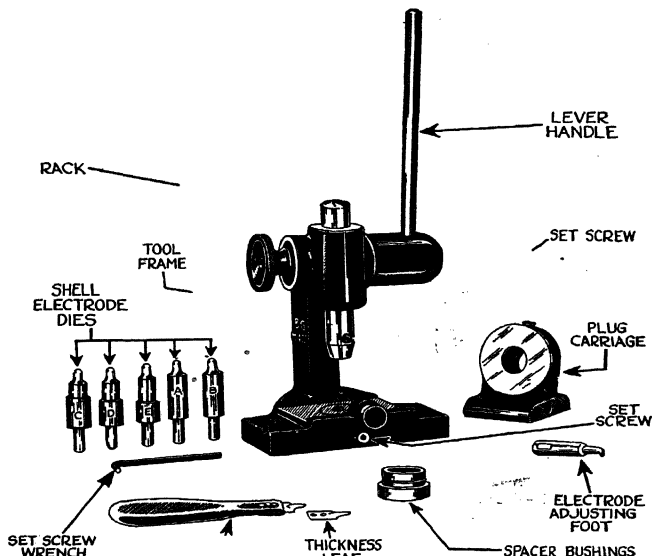

Fig. 11.—Tool for forming and adjusting electrode.
The forming and adjusting tool (Fig. 11) makes it possible to form and adjust electrodes with factory precision.
**Electrode Clearance Adjustment.**—The electrode forming and adjusting tool is used for adjusting B G spark electrode clearances. It may be operated with either right or left hand. As illustrated in Fig. 11, it is set up for right-hand operation. For left-hand operation, it is necessary only to reverse the position of the electrode adjusting foot, plug carriage, and lever handle assembly.